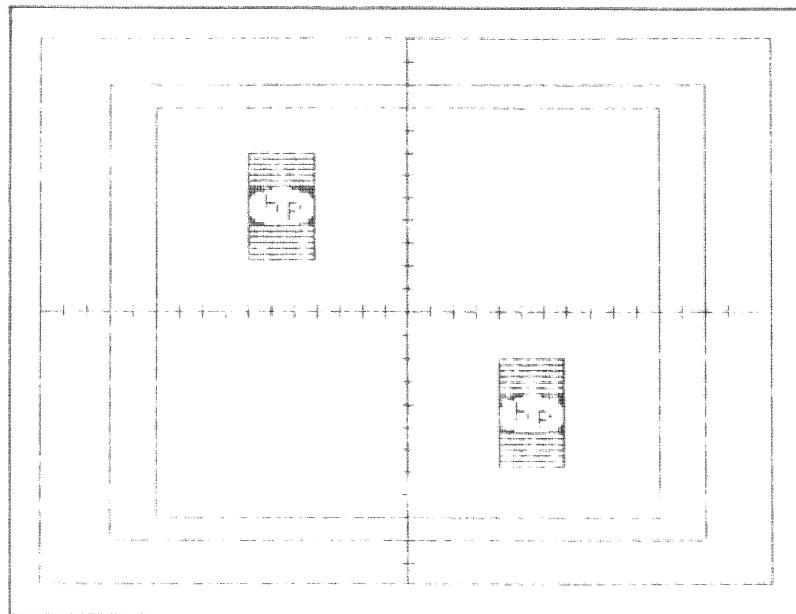

Figure 8-4. CFT Test Pattern 3
- f. The "pincushion" test pattern (CRT test pattern 3) shown in figure 8-4. This remains for about 3 seconds.